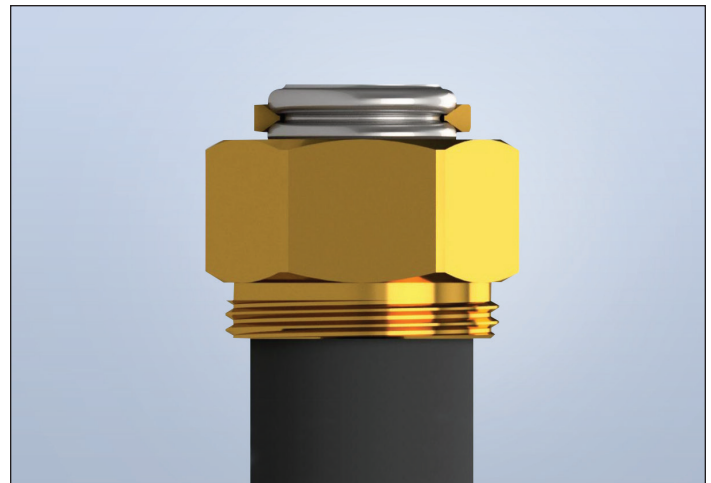

Figure: 1-5
8. Slide the Nut over the cut end until the Nut bottoms out against the jacket. Place two Split Rings into the first corrugation next to the tube cut then slide the Nut forward to trap the Split Rings (Figure 1-5).